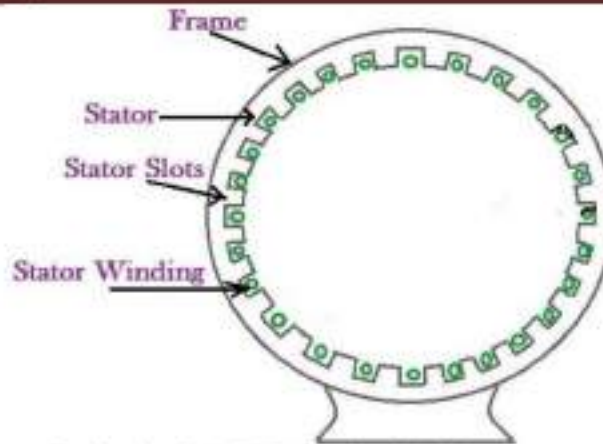

Fig 5.5
- The stator construction is as shown in figure 5.5